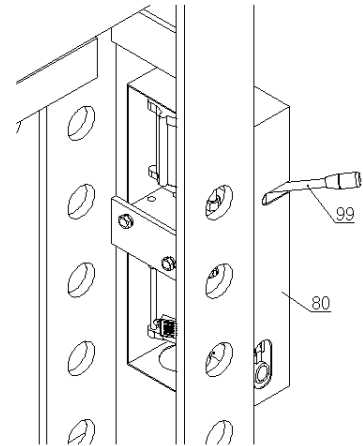

Fig. 5
Fix the selector lever (99) on the selector valve on the pump (80). (refer to fig. 5)